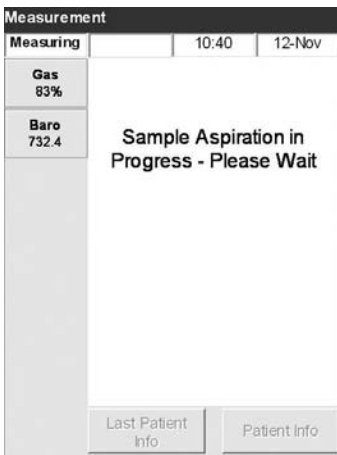

Fig. 5-11 Sample Aspiration
- The sample will then be aspirated (Fig. 5-11).